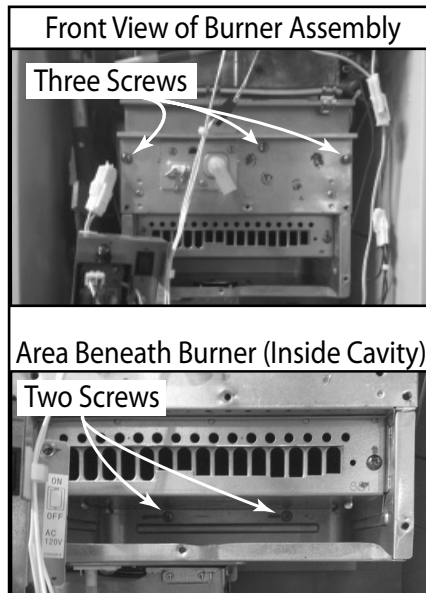

Figure 29.
- 11.1 Remove two screws below the burner, at the back (Figure 29).
- 11.2 Remove three screws across the front of the burner. See Figure 29. Do not remove the screws around the flame sensor/AFR and igniter rods.
- 6.1 Insert and hand tighten two (2) screws below the burner, at the back. (See Figure 29, p. 39.) These screws will secure to the back of the
- 6.2 Insert and hand tighten three (3) screws along the top, front portion of the burner (Figure 29, p. 39).